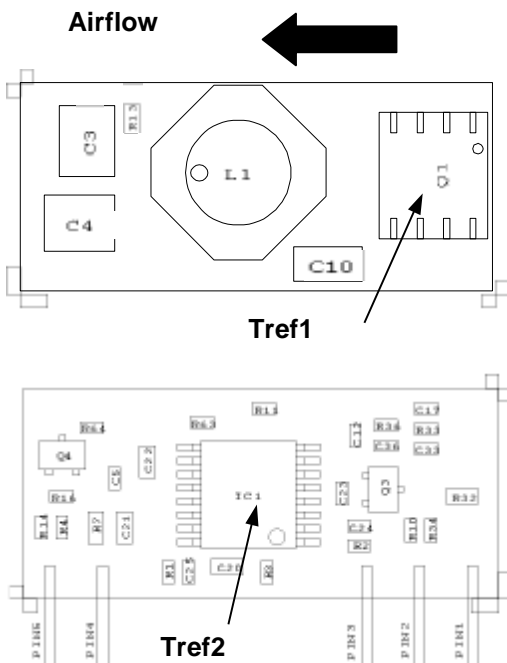
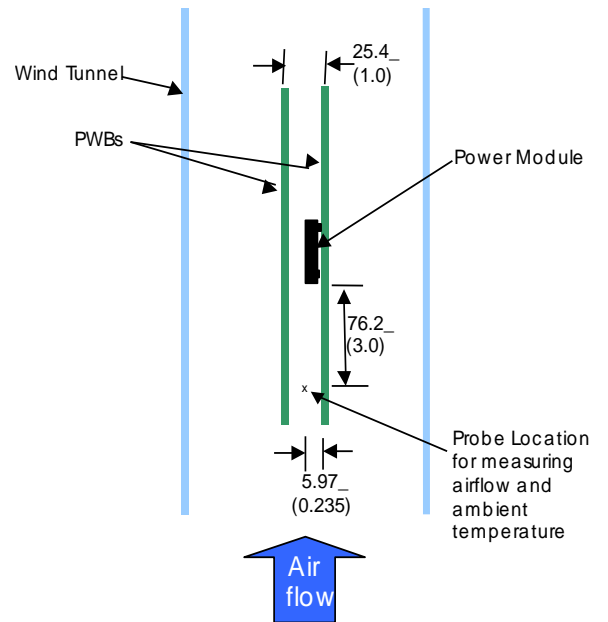

Figure 31. Tref Temperature measurement location.
Figure 32. Thermal Test Set-up.
To provide over temperature protection in a fault condition, the unit relies upon the thermal protection feature of the controller IC. The unit will shutdown if the thermal reference point  $T_{ref2}$ , (see Figure 31) exceeds  $140^{\circ}C$  (typical), but the thermal shutdown is not intended as a guarantee that the unit will survive temperatures beyond its rating. The module will automatically restarts after it cools down.
Considerations include ambient temperature, airflow, module power dissipation, and the need for increased reliability. A reduction in the operating temperature of the module will result in an increase in reliability. The thermal data presented here is based on physical measurements taken in a wind tunnel. The test set-up is shown in Figure 32. Note that the airflow is parallel to the long axis of the module as shown in figure 31. The derating data applies to airflow in either direction of the module’s long axis.
The thermal reference point,  $T_{ref}$  used in the specifications is shown in Figure 32. For reliable operation this temperature should not exceed 115°C.